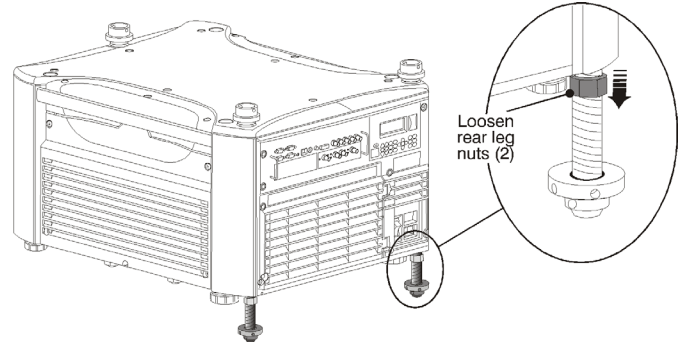

**Figure 2-18 Extend 3 Stacking Legs (UPRIGHT STACK SHOWN)**
Extend the stacking legs (3) by turning them so that at least 1 inch of thread is visible on each. This clearance accommodates the up-or-down movement for aligning the images from the stacked projectors. Ensure that you extend all 3 legs equally (see *Figure 2-18*) so they are level.
**IMPORTANT!** *Ensure the stacking legs are extended at least 1 inch and are slightly loosened. Refer to Figure 2-18.*